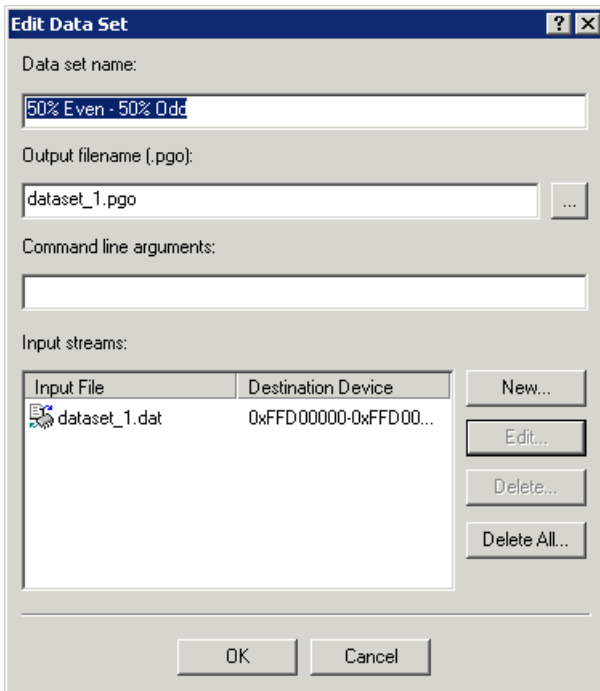

Figure 3-6. A Configured Data Set
- Click **OK** to return to the **Edit Data Set** dialog box. Your configured data set should match the one in Figure 3-6.